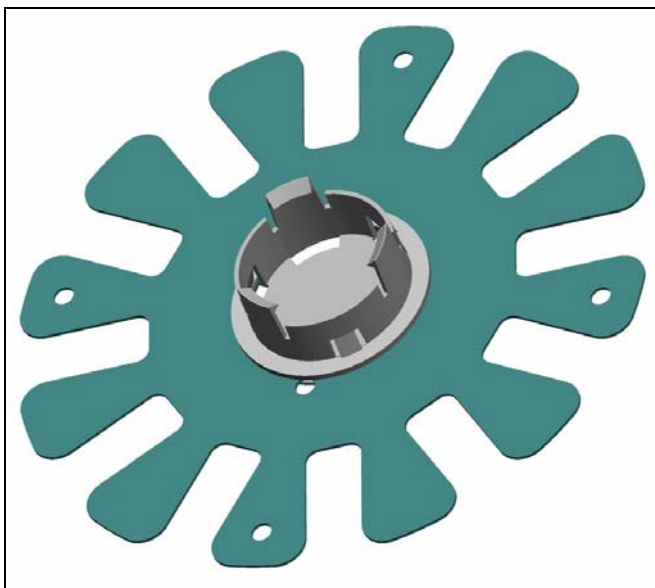

Figure 4. Probe Tank Wall Guide Assembly
2. Remove the probe tank wall guide assembly from the shipping container (Figure 4).